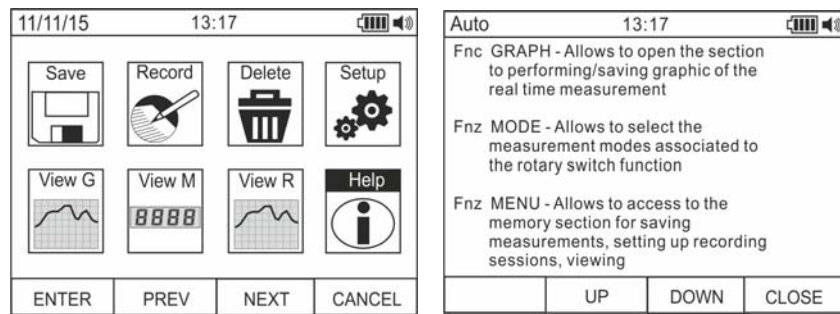

Fig. 21: Help on line on the display
40. Use the **F2** or **F3** key to select symbol “Help” and press the **F1** key (see Fig. 21).
41. Use the **F2 (UP)** or **F3 (DOWN)** to browse the pages of the context on-line help.